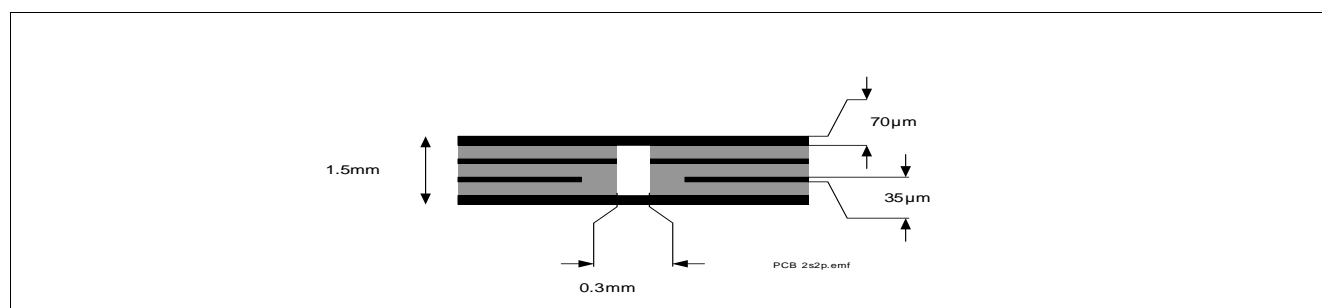
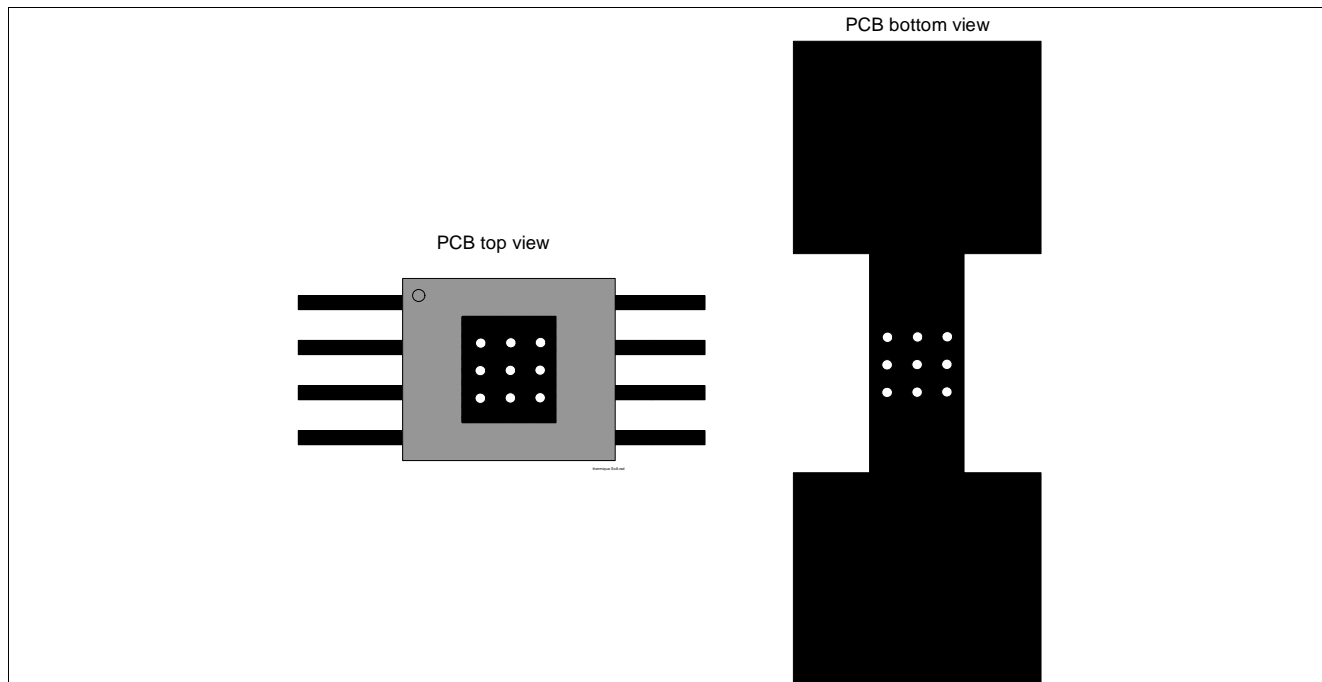

Figure 4 2s2p PCB Cross Section
Figure 5 PC Board Top and Bottom View for Thermal Simulation with 600 mm² Cooling Area
2) Specified R_{thJA} value is according to JEDEC JESD51-2,-5,-7 at natural convection on FR4 2s2p board; The product (chip + package) was simulated on a 76.4 x 114.3 x 1.5 mm board with 2 inner copper layers (2 x 70 μ m Cu, 2 x 35 μ m Cu). Where applicable, a thermal via array under the exposed pad contacts the first inner copper layer. Please refer to Figure 4 and Figure 5.